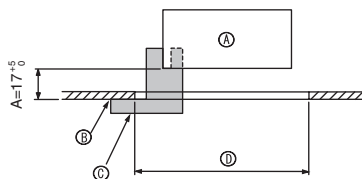

Fig. 9-2
①	Grille	1	950 × 950 (mm)
②	Screw with captive washer	4	M5 × 0.8 × 25
③	Gauge	1	(Divided into four parts)
④	Fastener	3
⑤	Screw	4	4 × 8
⑥	Screw	1	4 × 12
⑦	Wireless remote controller	1	for PLP-6BALM
⑧	Wired remote controller	1	for PLP-6BAMD
9.2. Preparing to attach the grille (Fig. 9-2)
- With the gauge ③ supplied with this kit, adjust and check the positioning of the unit relative to the ceiling. If the unit is not properly positioned relative to the ceiling, it may allow air leaks or cause condensation to collect.
- Ⓒ Gauge ③ (inserted into the unit)